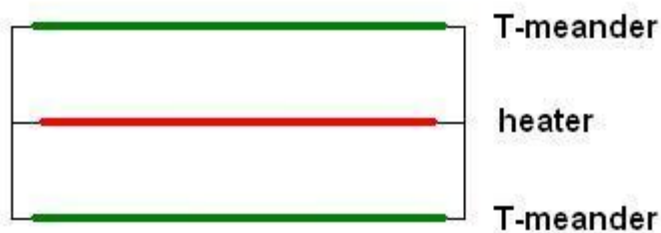

Figure 4: Structure of sensor element and EGS-LI sensor
The measuring principle is based on the measurement of temperature curves and an energy balance on a heat-modulated ceramic sensor element. As shown in Figure 4, the sensor consists of a heater centered within the sensor element and two temperature measurement meanders (TM) resting on the two outer surfaces. The sensor element is installed within a housing similarly to the lambda sensor.